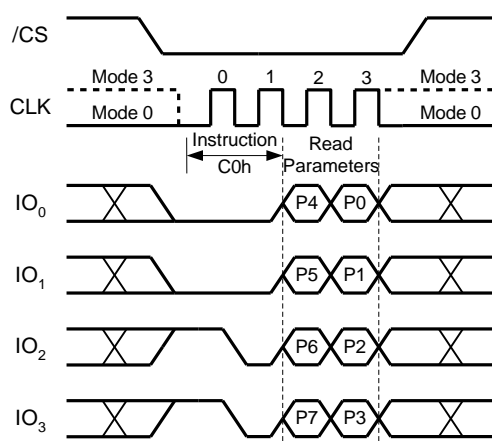

Figure 54. Set Read Parameters Instruction (QPI Mode only)
To read out the lock bit value of a specific block or sector as illustrated in Figure 4d, a Read Block/Sector Lock command must be issued by driving /CS low, shifting the instruction code “3Dh” into the Data Input (DI) pin on the rising edge of CLK, followed by a 24/32-bit address. The Block/Sector Lock bit value will be shifted out on the DO pin at the falling edge of CLK with most significant bit (MSB) first as shown in Figure 54. If the least significant bit (LSB) is 1, the corresponding block/sector is locked; if LSB=0, the corresponding block/sector is unlocked, Erase/Program operation can be performed.